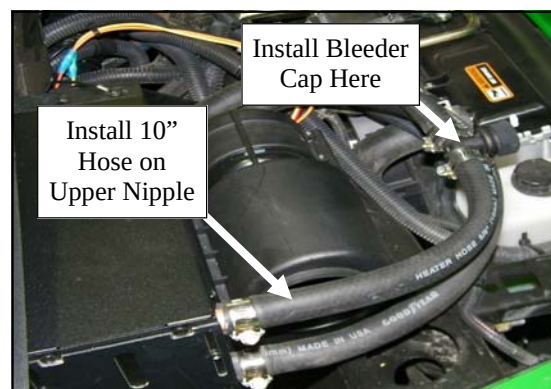

FIGURE 5.1
5.1 Attach the supplied 10" piece of heater hose to the upper nipple on the heater box and secure with a small hose clamp. (See Figure 5.1)
5.2 Install the supplied bleeder cap to the end of the hose and secure with a small hose clamp. Tip the cap forward when installing to prevent it from hitting the hood. (See Figure 5.1)
5.5 Attach the lower hose coming up from the floorboard to the lower nipple on the heater box and secure with a small hose clamp. Attach the upper hose to the nipple on the bleeder cap and secure with small hose clamp. (See Figure 5.1) Pull any slack back down to the passenger compartment, leaving enough of a service loop under the hood to allow the hood to close easily, without kinking the hose.